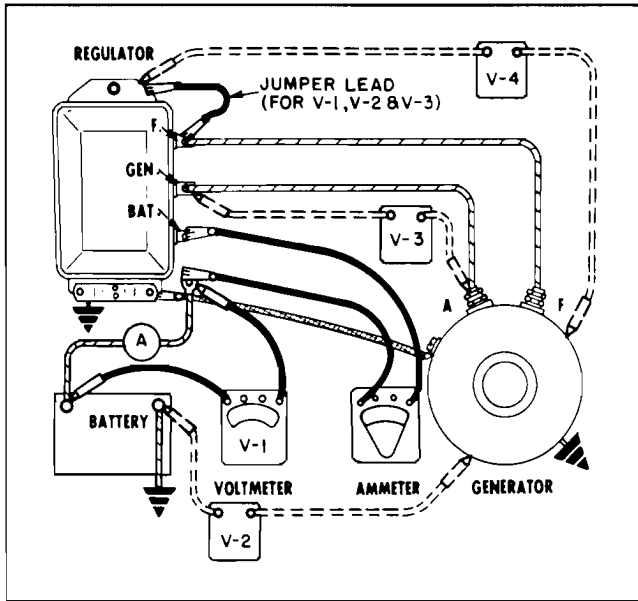

Fig. 11-15 Testing for Voltage Drops in Charging Circuit
Excessive voltage drop in the charging circuit tends to keep the battery in an undercharged condition. To check for excessive voltage drop (resulting from loose connections or other high resistance) in the charging circuit, make connections as shown in Fig. 11-15 and proceed as follows:
4. With the engine stopped, turn on the full lighting and accessory load (approximately 20 amperes). Measure the voltage drop at V_4 (Fig. 11-15). If this voltage drop exceeds 0.1 volt, excessive resistance is indicated in this portion of the charging circuit.